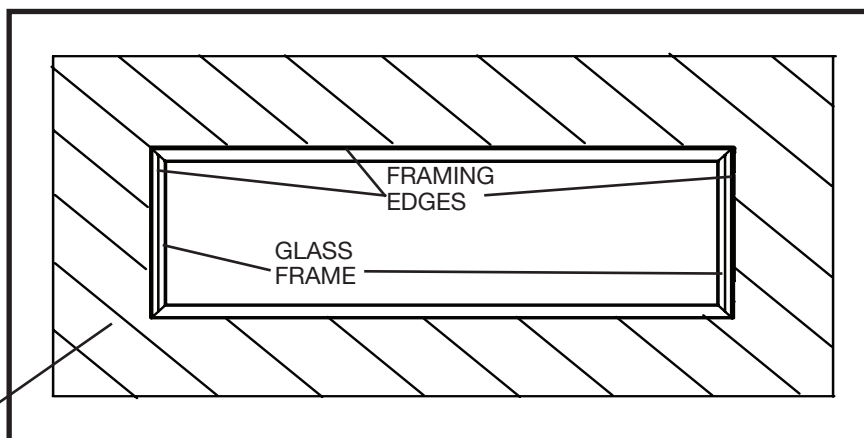

Figure 21: Non-combustible facing area.
3. The lintel assembly has a maximum range of adjustability of 1" to accommodate varying facing material thicknesses. The maximum depth is 6" (Figure 21).